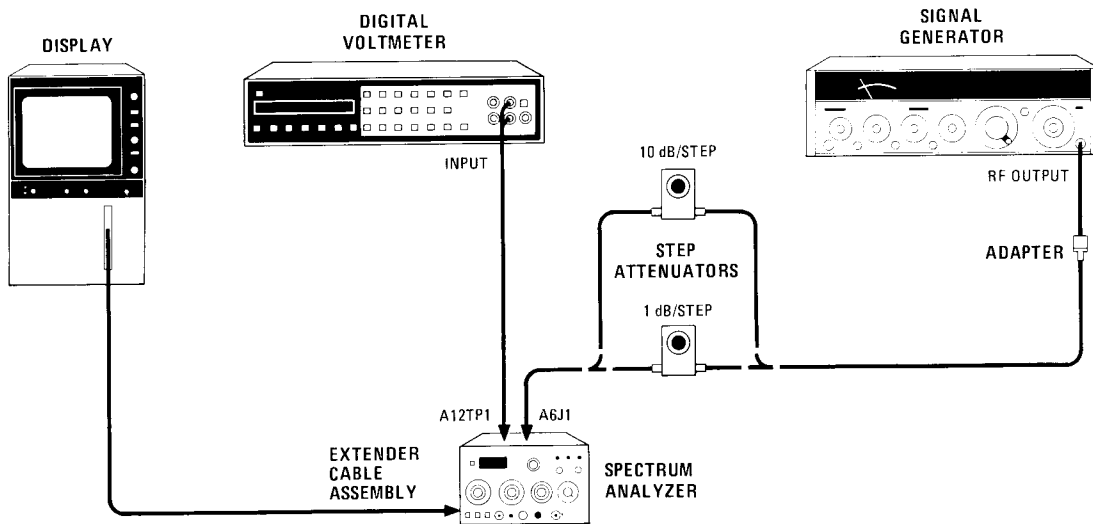

Figure 5-8. Step Amplifier Gain Adjustment Test Setup
2. Connect equipment as shown in Figure 5-8. Connect signal generator output to 1-dB step attenuator, which in turn is connected to A6J1 with test cable (disconnect orange cable W3). Tune signal generator frequency for peak amplitude on display.